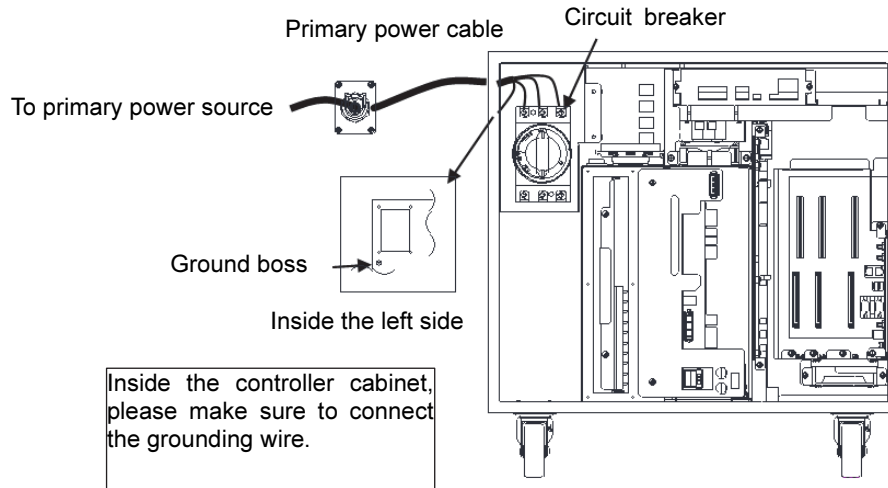

Fig. 3.7.2 Connection of the primary cable
- 4 As shown in Fig. 3.7.2, connect the primary power cable to the primary side of the breaker, and the ground wire to the ground terminal (PE).